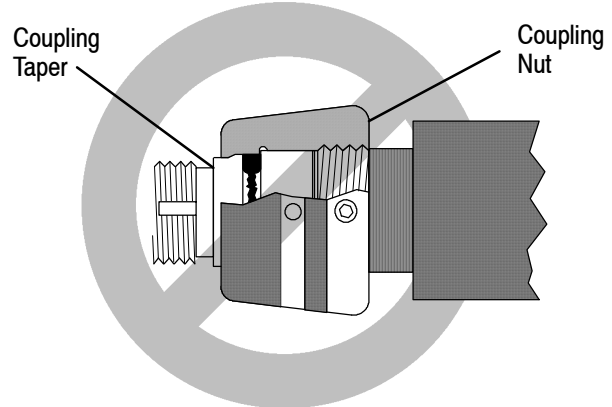

Figure 5
3.3. Final Visual Inspection - Coupling Taper (Figure 5)**NOTE**
1. Refer to Figure 5 and locate the surface of the front of the coupling nut and the coupling facing the tool head. Also locate the "coupling taper," which is the part of the coupling that should be covered by
2. Compare the surfaces of the coupling taper and the coupling nut. If ANY portion of the coupling taper extends beyond the face of the coupling nut (refer to Figure 5), **DO NOT USE THE AMPACT TOOL - RETURN THE POWER UNIT IMMEDIATELY TO AMP INCORPORATED FOR REPLACEMENT.**